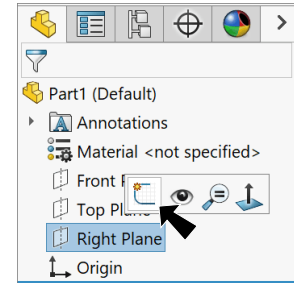
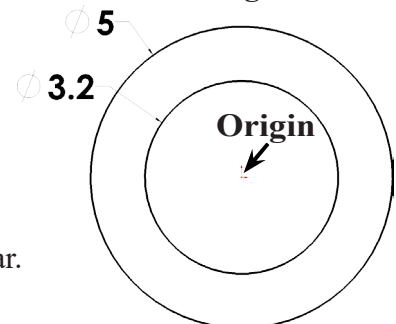

Fig. 1
Fig. 2
Step 2. Click **Right Plane**  in the Feature Manager and click **Sketch**  on the context toolbar, **Fig. 1**.
Step 3. Click **Circle**  (S) on the Sketch toolbar.
Step 4. Sketch two circles starting at the Origin , **Fig. 2**.
Step 5. Click **Smart Dimension**  (S) on the Sketch toolbar.
Step 6. Dimension circle **diameters 3.2 and 5**, **Fig. 2**.